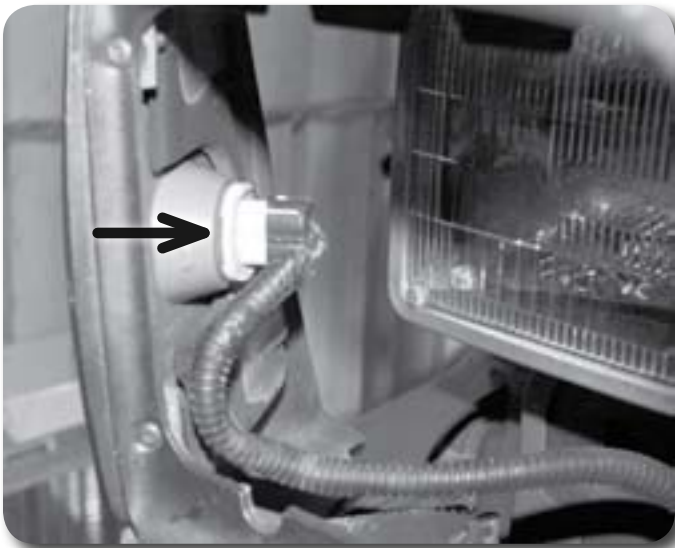

Figure 1
4. Remove the grill by removing the six retaining screws from the top and middle of the grill. The bottom of the grill is held in place by clips. Carefully pull the grill out to free the clips. Remove the turn signal lamps from the signal housings. Figure 1. Save screws.